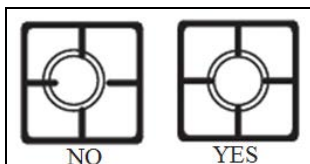

Figure 34
- Grates should be positioned correctly over the burners as shown. (See Figure 34)